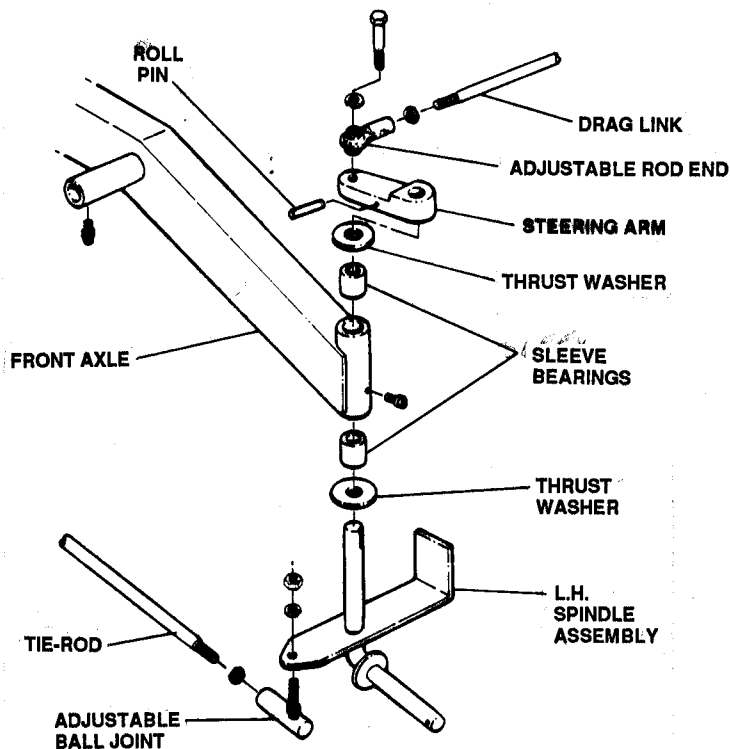

FIGURE 5.3
- (1) Drive roll pin out of steering arm and, with drag link attached, remove steering arm from spindle (leaving drag link attached will eliminate need for adjustment during reassembly.) See Figure 5.3.